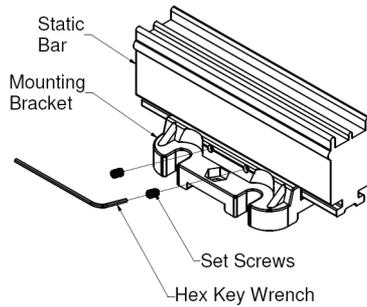

Figure 4. Securing the Static Bar
NOTE! – There should be **NO** grounded metal such as an idler roller immediately behind the web on the far side from the static bar. The area behind the static bar should be as free as possible from grounded metal. Refer to **Figure 4**.
7. Locate the set screws and the hex key wrench and install two (2) set screws into the holes in the side of the mounting bracket. The set screws engage the “T” slot on the back of the bar securing it in place (**Figure 4**).